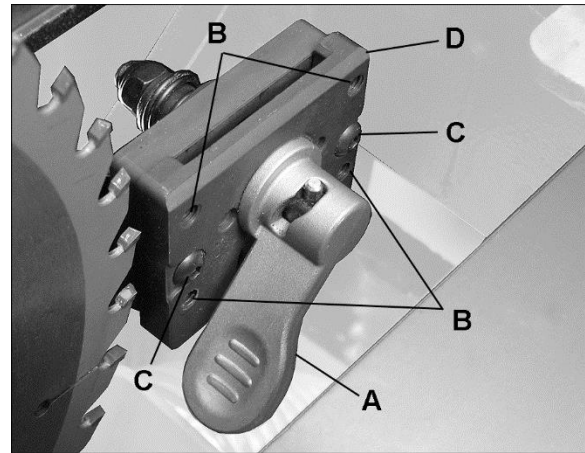

Figure 8-8
3. Pull up lever (A, Figure 8-8) and remove riving knife, making note as to which direction riving knife needs to be moved to align it with saw blade.
4. Use 3mm hex key to make adjustments to four set screws (B, Figure 8-8). Adjust any of the set screws required to bring riving knife in alignment with saw blade.
5. Reinsert riving knife, secure by tightening lever (A) and check alignment per step 2.
8. Use 3mm hex key to loosen two socket head button screws (C, Figure 8-8). This will allow the clamp plate (D) to slide back and forth on the fixed base.